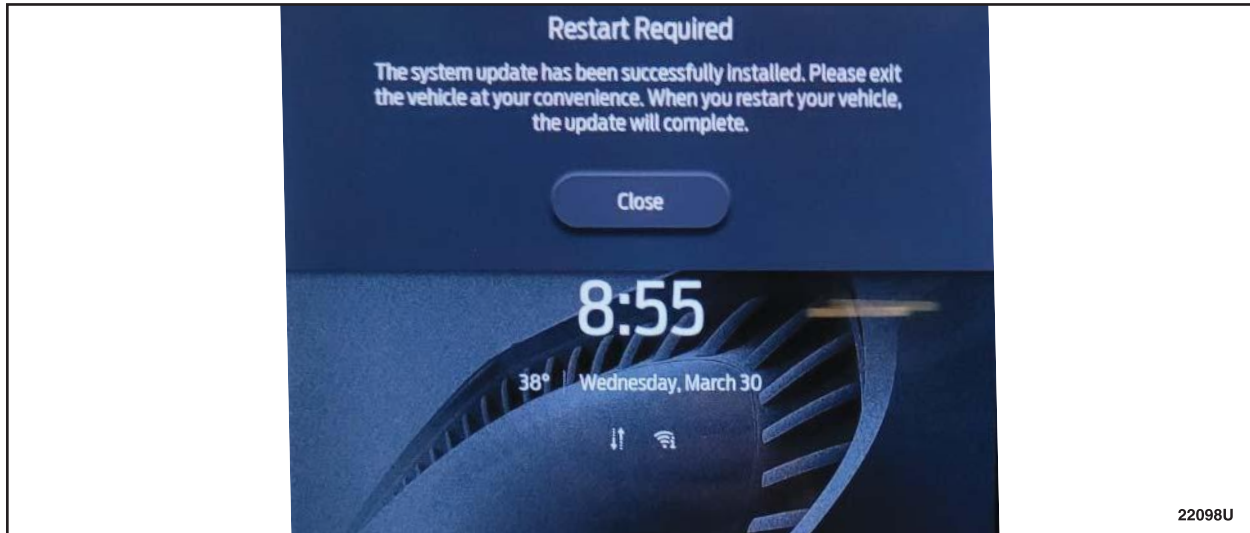

FIGURE 17
20. Turn off the vehicle. See Figure 17.